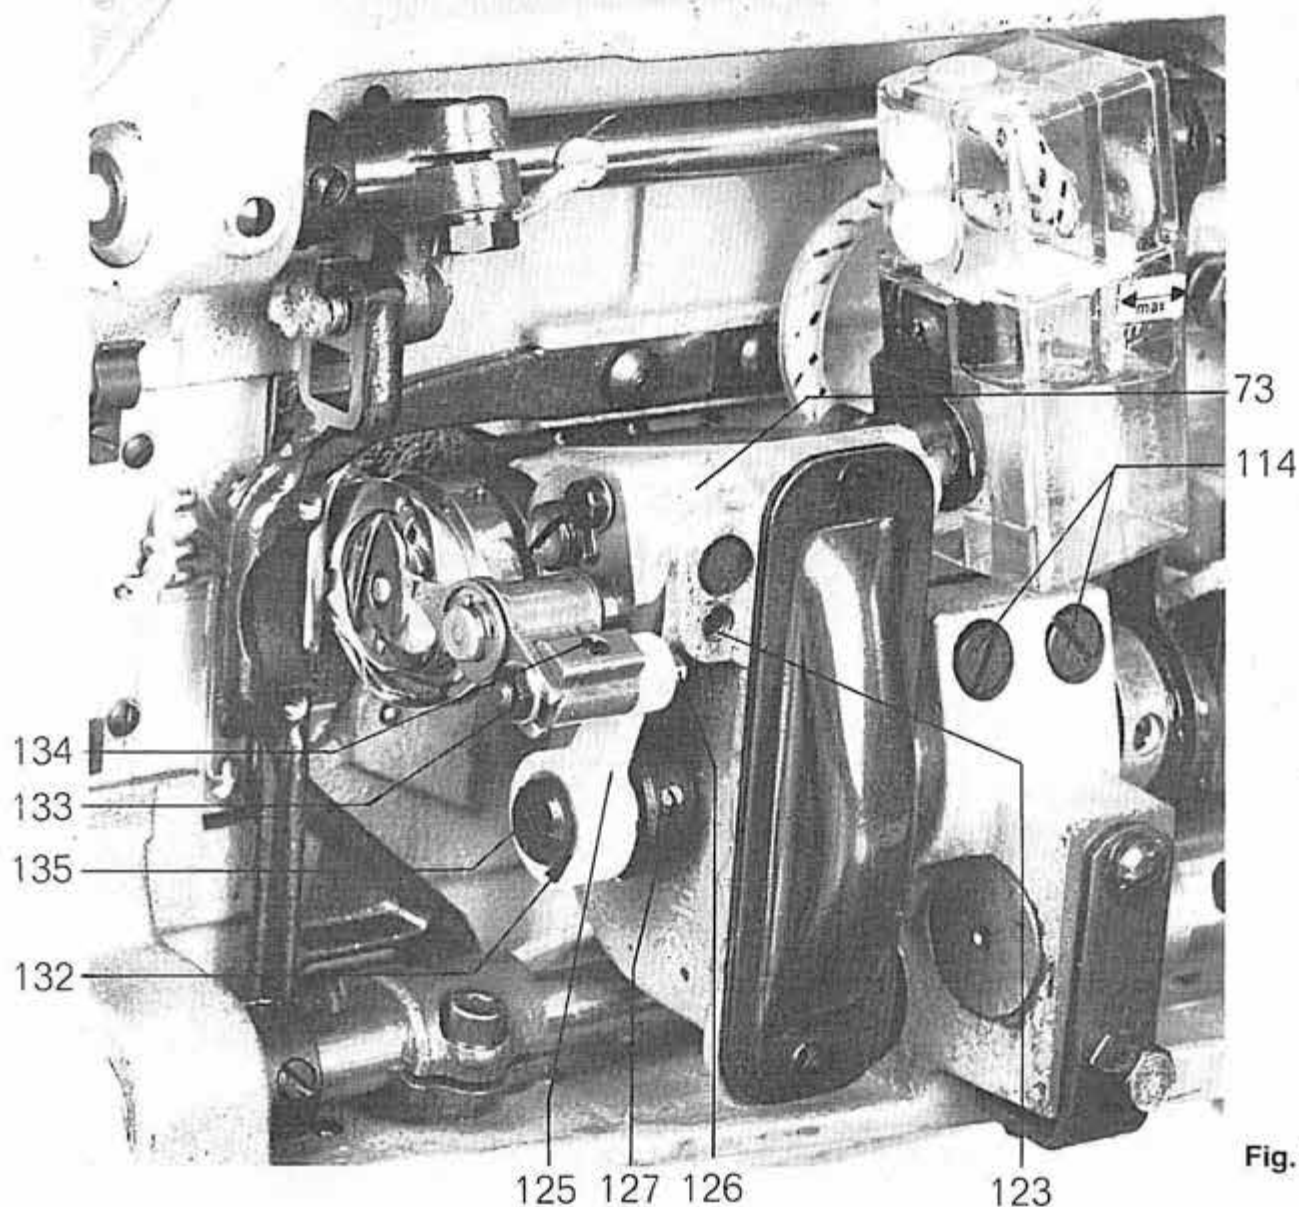

Fig. 21
**17.3. Adjusting the lateral distance between the hook and the needle and aligning the hook case (fig. 21)**
To effect a correct adjustment, loosen screw 123 (fig. 21) and displace the pin 124 (fig. 24) axially. Make sure that, after this adjustment, the small eye of draw bar 125 (fig. 21) travels approximately through the centre of the bearing surface of the eccentric pin 126. Otherwise screw 127 must be loosened and the eccentric bearing pin 132 must be shifted axially. Adjust, if required according to section 19.3. of the present chapter.
### 19.3. Adjusting the movement of the bobbin case lifter (figs. 21, 23, 24, 25)
3. Loosen screw 127 (fig. 21) and turn eccentric bearing pin 132 until the two reference marks 129 and 130 (fig. 25) coincide. (Do not alter the lateral position; see section 19.2. of this chapter.)
4. Tighten screw 127 (fig. 21),
8. Tighten screw 134 (fig. 21),
Should it be necessary to take out the draw bar 125 (fig. 21) it is important to remember that screw 135 has a left-hand thread.
## **21. Stripping the sewing hook (fig. 21)**